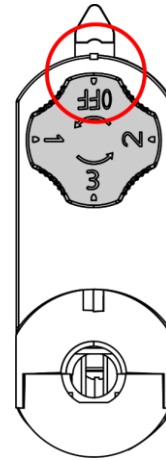

Fig. 12
- 03) Set the **circuit selector (05)** in OFF position, as shown in Fig. 12.